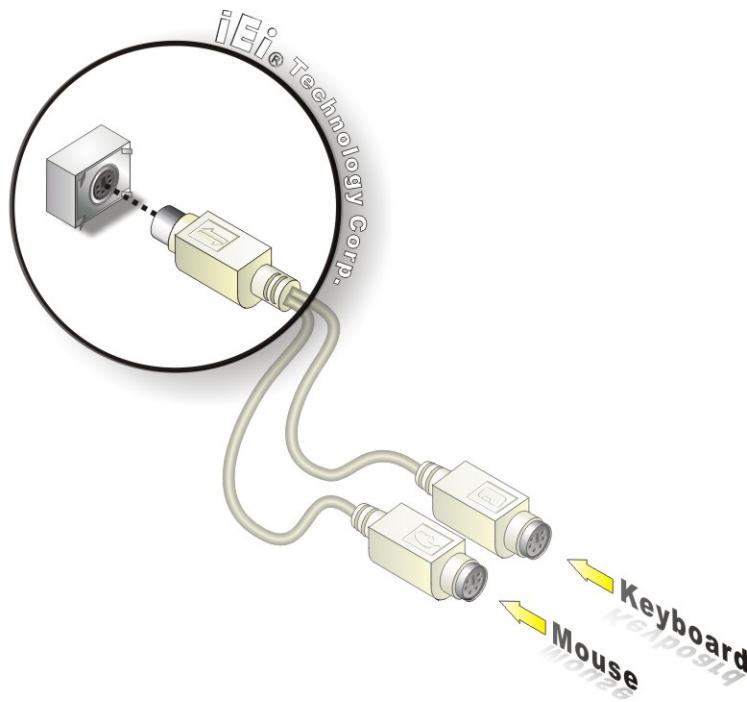

Figure 5-16: PS/2 Keyboard/Mouse Connector
Step 2: Insert the keyboard/mouse connector. Insert the PS/2 connector on the end of the PS/2 y-cable into the external PS/2 connector. See Figure 5-16.